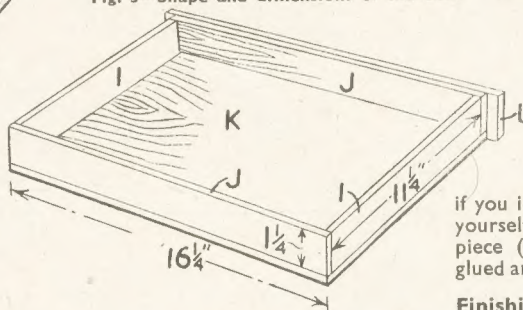

Fig. 5—How the drawer is made
The drawer is first made up as a shallow box of  $\frac{1}{4}$ in. material and to the measurements shown in Fig. 5. The short sides (I) are glued and pinned, with light fretpins, between the longer pieces (J). The floor (K) can be of plywood or composition board  $\frac{1}{4}$ in. thick. It will measure 16 $\frac{1}{2}$ ins. by 11 $\frac{1}{2}$ ins. It could also be constructed from two or three narrow boards to make up the total 11 $\frac{1}{2}$ ins., so long as they are securely pinned to the sides.